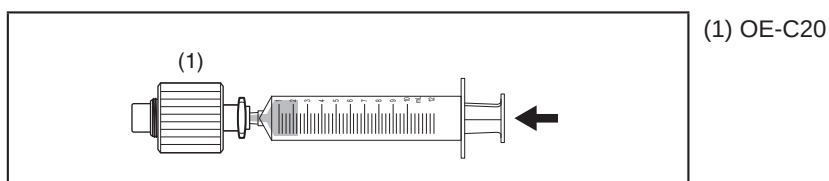

Figure 1.5.14
- 8) Using a syringe filled with water, flush the water jet channel cleaning adapter (OE-C20) with 10 mL of water. (see Figure 1.5.14, p111)
- 18) Using a syringe filled with air, flush the lumen of water jet channel cleaning adapter (OE-C20) with air to purge residual water. (see Figure 1.5.14, p111)